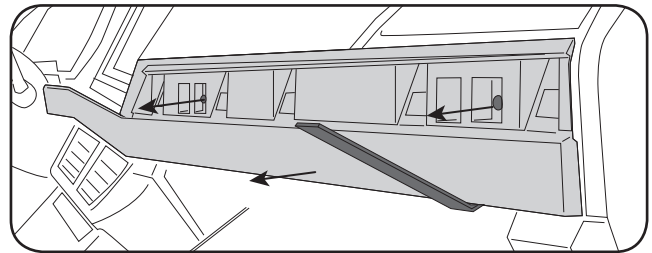

Fig. 1.4
4. Open glovebox and using a panel tool, pry out the dash trim above it to release the clips securing it. (Fig. 1.4)